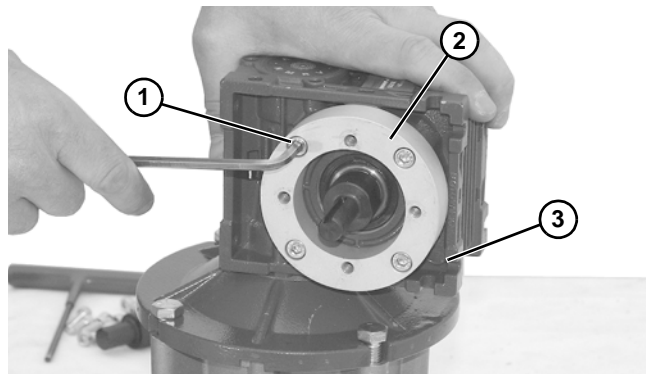

Figure 27
*Step 2 and (**Figure 27, item 2**) is required for standard load VFD gearmotors only.*
2. Loosen four (4) socket head screws (**Figure 27, item 1**) and detach spacer (**Figure 27, item 2**) from gear reducer (**Figure 27, item 3**).